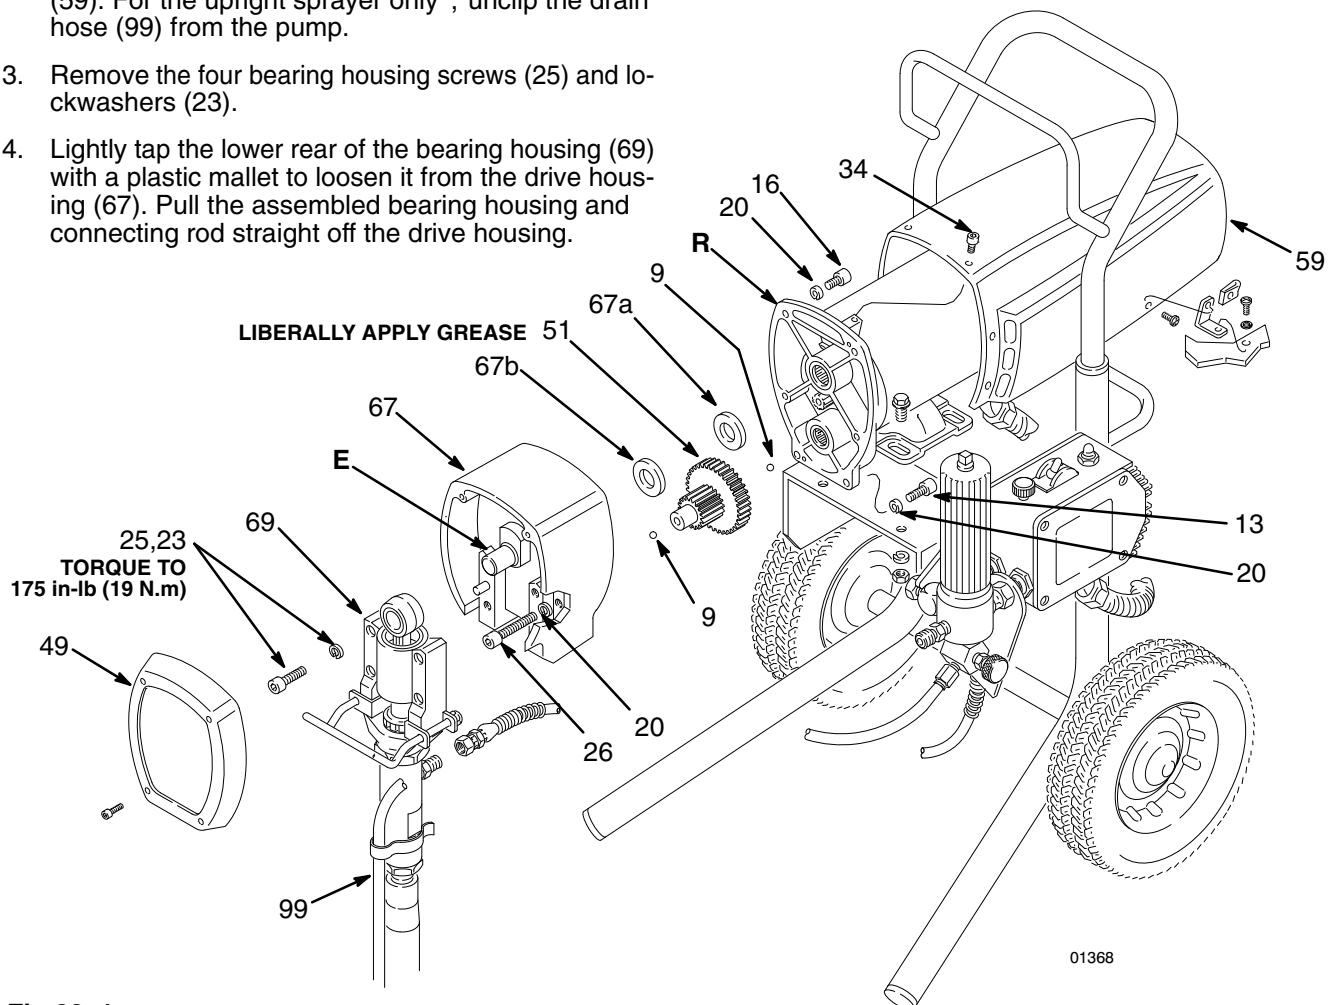

Fig 33-1
**NOTE:** Refer to Fig 33-1 for this procedure.
2. Remove the front cover (49) and the motor shield (59). For the upright sprayer only, unclip the drain hose (99) from the pump.
3. Remove the four bearing housing screws (25) and lockwashers (23).
4. Lightly tap the lower rear of the bearing housing (69) with a plastic mallet to loosen it from the drive housing (67). Pull the assembled bearing housing and connecting rod straight off the drive housing.
5. Remove the two drive housing screws (26) and lockwashers (20).
6. Remove the two lower screws (13) and lockwashers (20) and then the two upper screws (16) and lockwashers (20) from the front of the motor (73).
7. Tap the drive housing (67) with a plastic mallet to loosen it from the front of the motor (73), and then pull the drive housing straight off.
8. Liberally apply bearing grease to the gear cluster (51). The gear area should have approximately 4 total ounces of grease. Grease is supplied with the drive housing replacement kit. Be sure the thrust balls (9) are in place.
9. Place the bronze-colored washer (67b) THEN the silver-colored washer (67a) on the shaft protruding from the big gear in the drive housing (67).